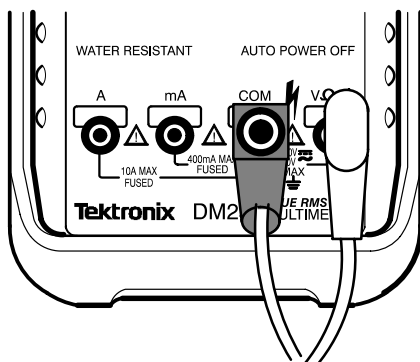

Figure 1: Meter Connections
1. Connect the black lead to the meter **COM**, and the red lead to the **V Ω** input. Set the meter to the DC Volts position. See Figure 1 for connection to a Tektronix DM 254.